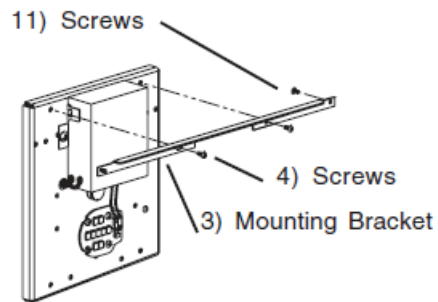

Fig 9
1. Install Screws (11) into outer most holes in Mounting Bracket (3) See Fig 9.
2. Install mounting bracket by inserting Screw (4) through hole in bracket and secure to housing. Install second screw through slot in bracket and secure to housing. See Fig 9.